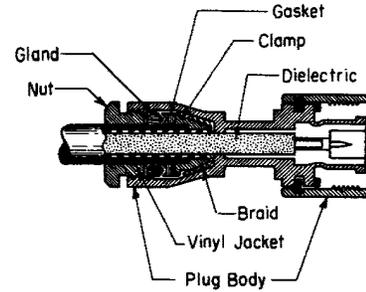

Fig. 62
- (e) Slide body carefully into place so that contact enters hole in insulator. Face of dielectric must fit flush against insulator. Slide gasket, gland, and nut into plug body by pushing nut. Be sure knife edge of gland remains in groove of gasket. Tighten nut with wrench. Gasket should be cut in half during tightening operation. See Fig. 62.